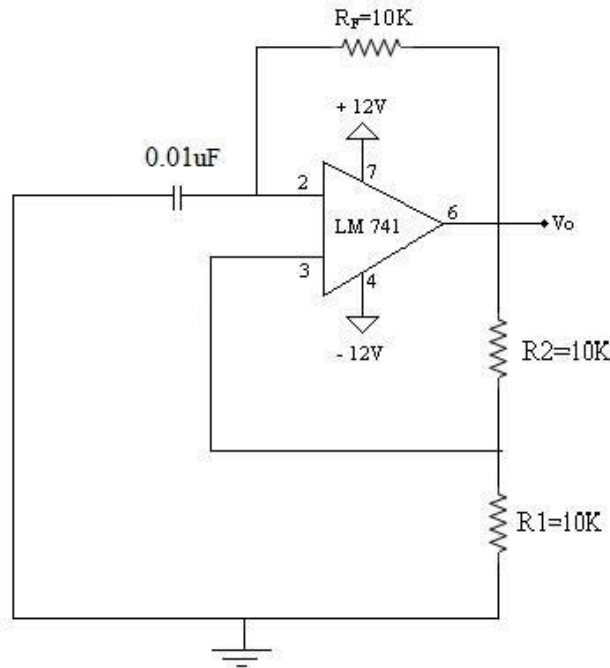

Figure 1
1. Connect the circuit as shown in figure:1